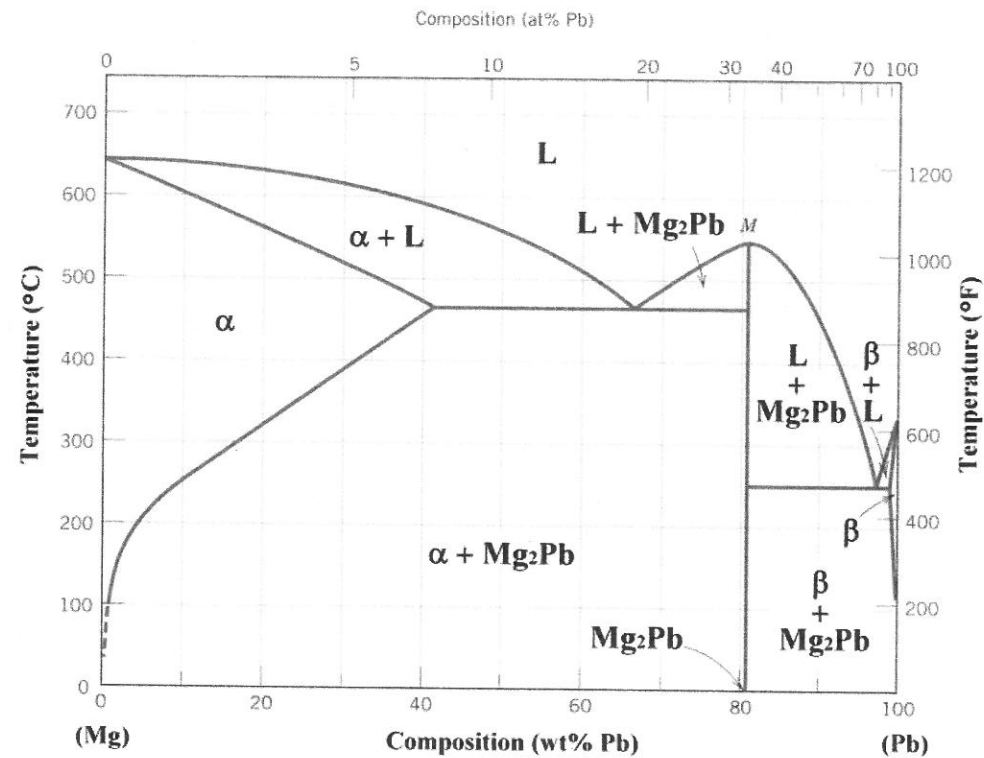

Fig. 2 Phase diagram of Mg-Pb alloy
9. For a 76 wt% Pb-24 wt% Mg alloy (as shown in **Fig. 2**), make schematic sketches of the microstructure that would be observed for conditions of very slow cooling at the following temperatures: 575°C (2%), 500°C (2%), 450°C (3%), and 300°C (3%). Please must label all phases and indicate their approximate compositions.